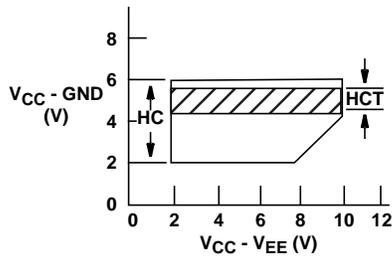

FIGURE 2.
In addition these devices contain logic-level translation circuits that provide for analog signal switching of voltages between  $\pm 5V$  via 5V logic. Each switch is turned on by a high-level voltage on its select input (S) when the common Enable (E) is Low. A High E disables all switches. The digital inputs can swing between  $V_{CC}$  and GND; the analog inputs/outputs can swing between  $V_{CC}$  as a positive limit and  $V_{EE}$  as a negative limit. Voltage ranges are shown in Figures 2 and 3.
Supply Voltage Range, $V_{CC} - V_{EE}$ HC, HCT Types (Figure 2) .....	.2V to 10V